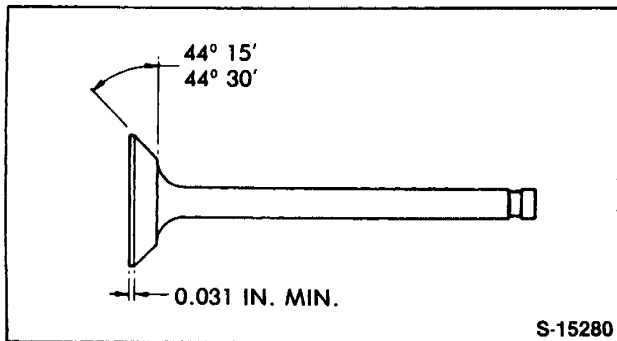

Figure 15
- Examine the valve face and, if pitted, replace or reface by grinding to the dimension shown in Figure 15. Before refacing the valve, be sure the valve stem is not bent or worn and check the valve seat run-out, measured at right-angles to the seat, does not exceed a total of 0.0015 in. (0.04 mm).